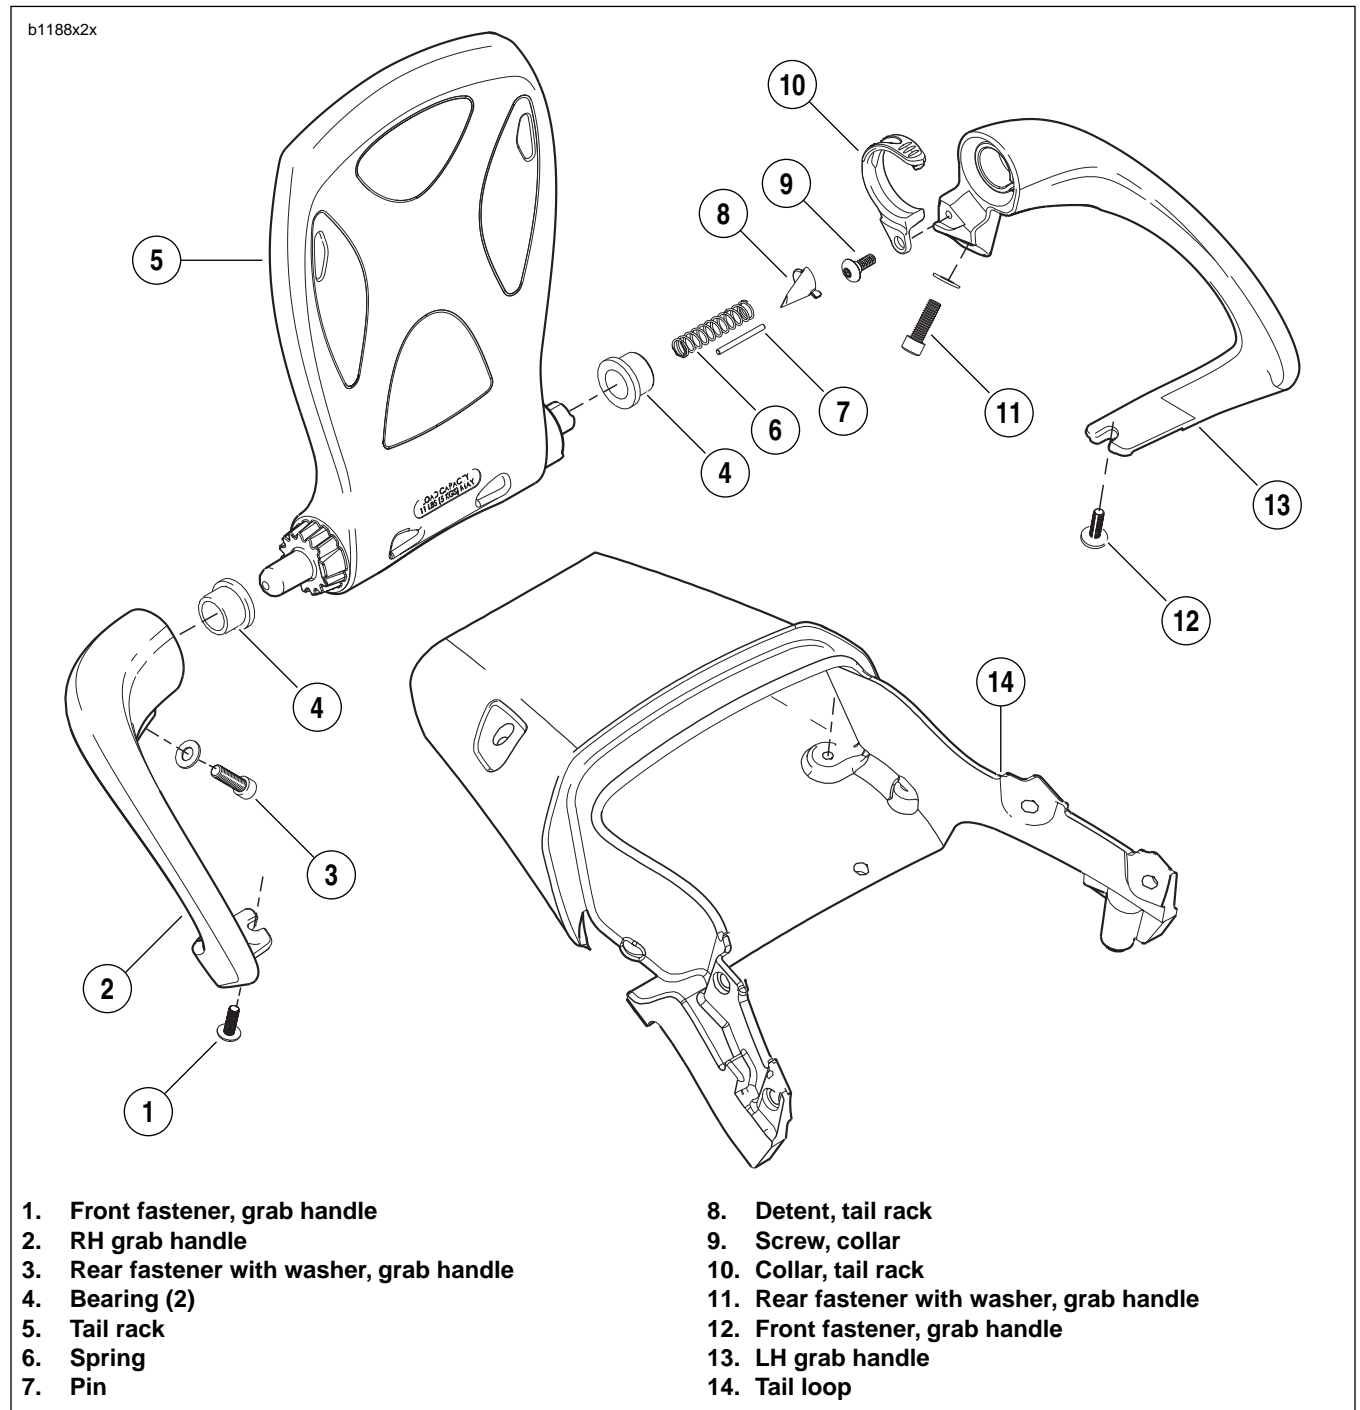

Figure 2-142. Triple Tail, Passenger Backrest and Luggage Rack
2. See Figure 2-142. To access fasteners (3, 11), remove the plastic wire cover under the license plate light. Remove the two screws and the two nuts to remove the plastic cover.
3. Remove the right hand (RH) rear fastener (3).
4. Loosen but do not remove the front (RH) fastener (1).
5. Hold the triple tail rack (5) in place and remove the RH grab handle (2).
1. See Figure 2-142. Remove the fastener (9) and the plastic collar (10) from the LH grab handle (12).
2. To remove the bearings (4) from the right hand grab handle, insert a 3/4 in. blind bearing collet and extract.
3. To remove the bearing (4) from the LH grab handle, insert a 3/4 in. blind bearing collet and extract.
4. Remove the pin (7) and detent (8).
5. See Figure 2-142. Apply LOCTITE 272 (red) to LH and RH grab handle fasteners.